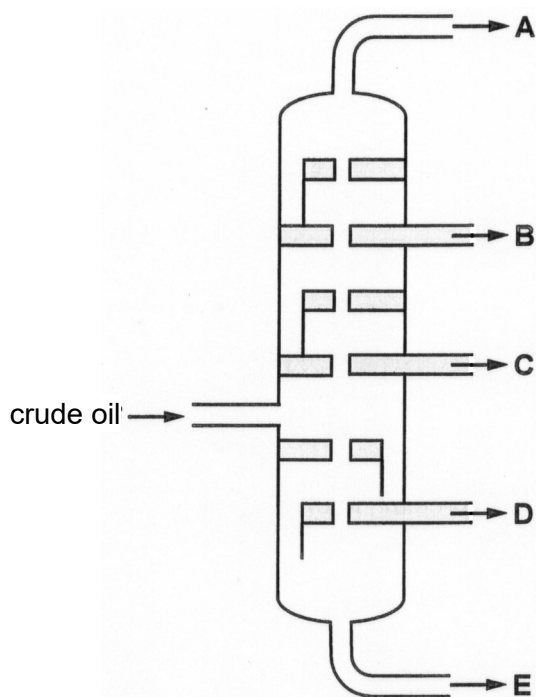

Fig. 6.1
- 6 Fig. 6.1 shows a fractionating column for separating crude oil. The fractions produced are labelled **A**, **B**, **C**, **D** and **E**.